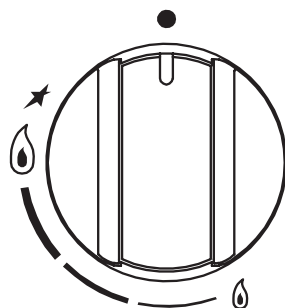

Fig. 3.4
- ✓ The electric ignition is incorporated in the burner knobs and is identified by the symbol  (fig. 3.4).